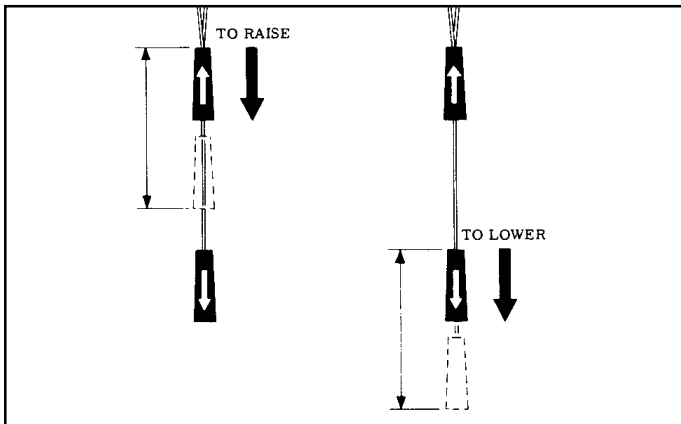
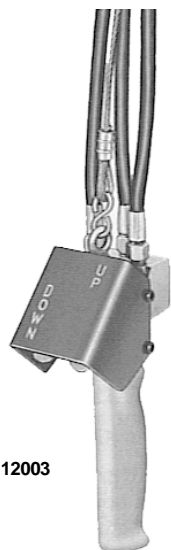

Figure 3-1. Pull Cord Control Handles.
Figure 3-2. Pendant Throttle Control Handle
3-1. GENERAL. Operation of BUDGIT Air Hoists is controlled by either pull cords or a pendant throttle control, depending upon the model. Pull Cord Control models have pull type control cords (Figure 3-1) suspended from a rocker type lever at bottom of hoist that actuates the throttle control valve. Pendant Throttle Control models have a convenient lever type control valve handle (Figure 3-2) suspended from the control cylinders on sides of control head housing.
- (1) Depress throttle valve lever marked "UP" to raise load. See Figure 3-2.
- (2) Depress throttle valve lever marked "DOWN" to lower load.
- (3) Release lever being depressed to stop either lifting or lowering.
- (4) Speed of lifting and lowering is varied by the position of the throttle valve lever being depressed.